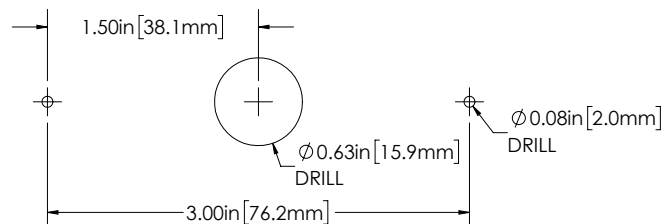

Figure 1
Step 1. Mark three points 1.5 in apart on mounting surface. See Figure 1.